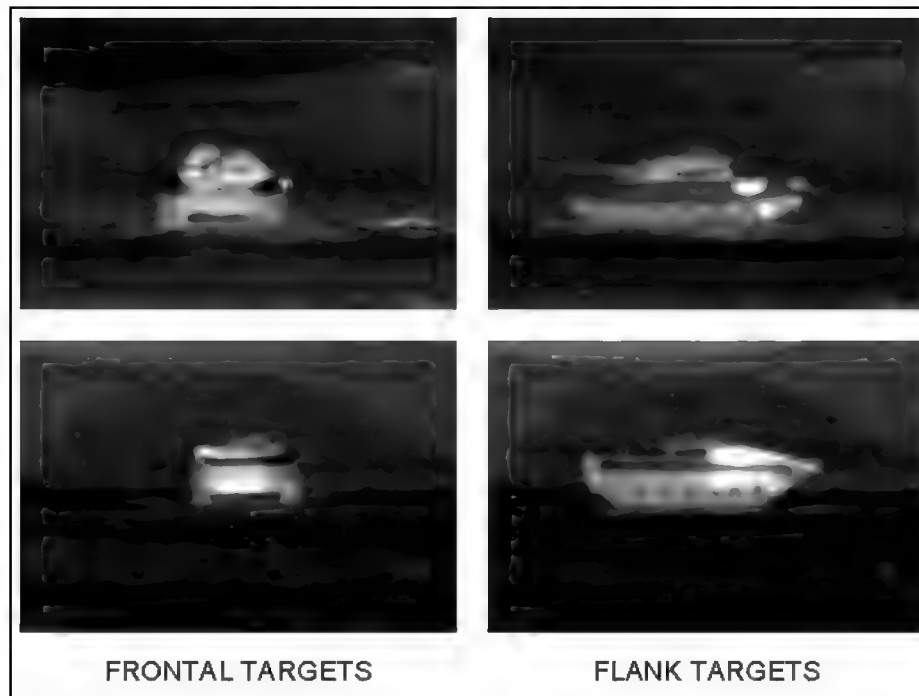

Figure E-60. Classification and recognition features of flank versus frontal target (label APC AND TANK).
(2) **Target Aspect.** Flank targets are easier to classify and recognize than frontal targets (Figure E-60). The profile exposes the suspension and other distinctive features, such as turrets, engine compartments, gun tubes, or other armament.